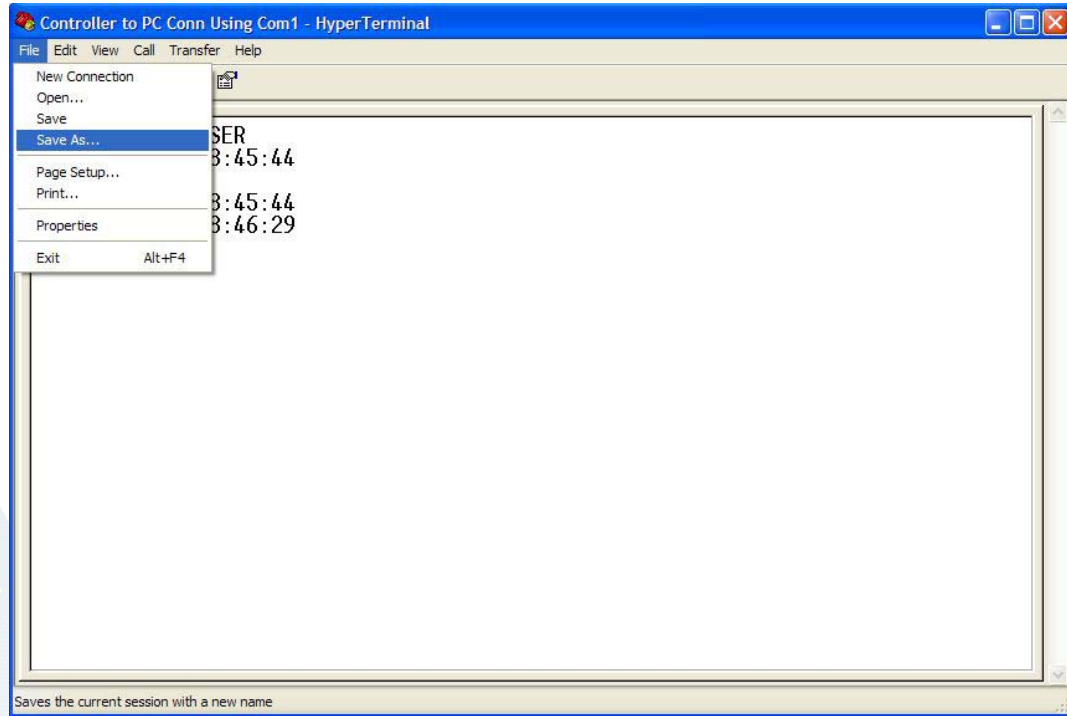

Figure 8 Selecting the "Save As" Function
16. Once the run is over, the data can be saved to a file by using the HyperTerminal tool bar "File" drop down menu. Place the mouse on the "File" label in the upper toolbar and the File drop down menu will be displayed (See Figure 8 Selecting the "Save As" Function)